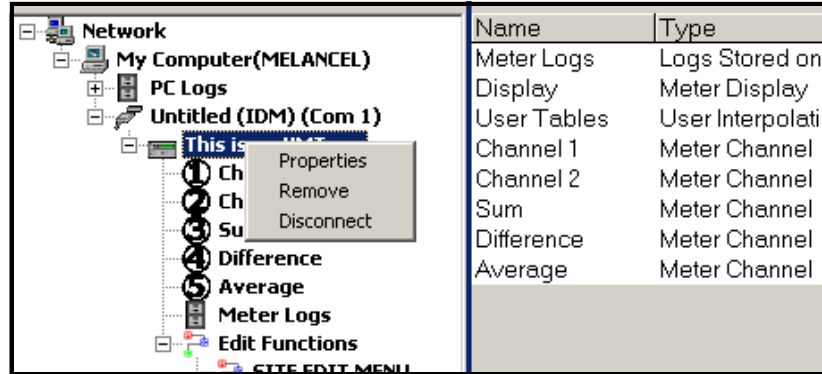

Figure 5: *Properties* Option in the *New Meter Browser*
2. Right-click on the highlighted XMT868i and click on the *Properties* option, as shown in Figure 5.